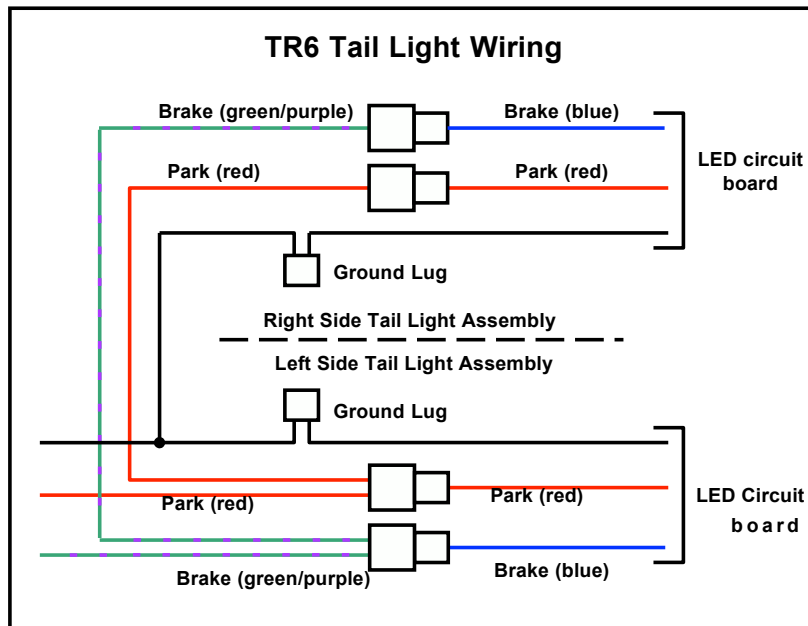

Figure 3.
8. Optional Park/Brake and Turn signal board hook up. Use jumper wires to attached the Park/Brake lights to the Park/Brake lights on the Turn board. Refer to Fig 3 tail light wiring